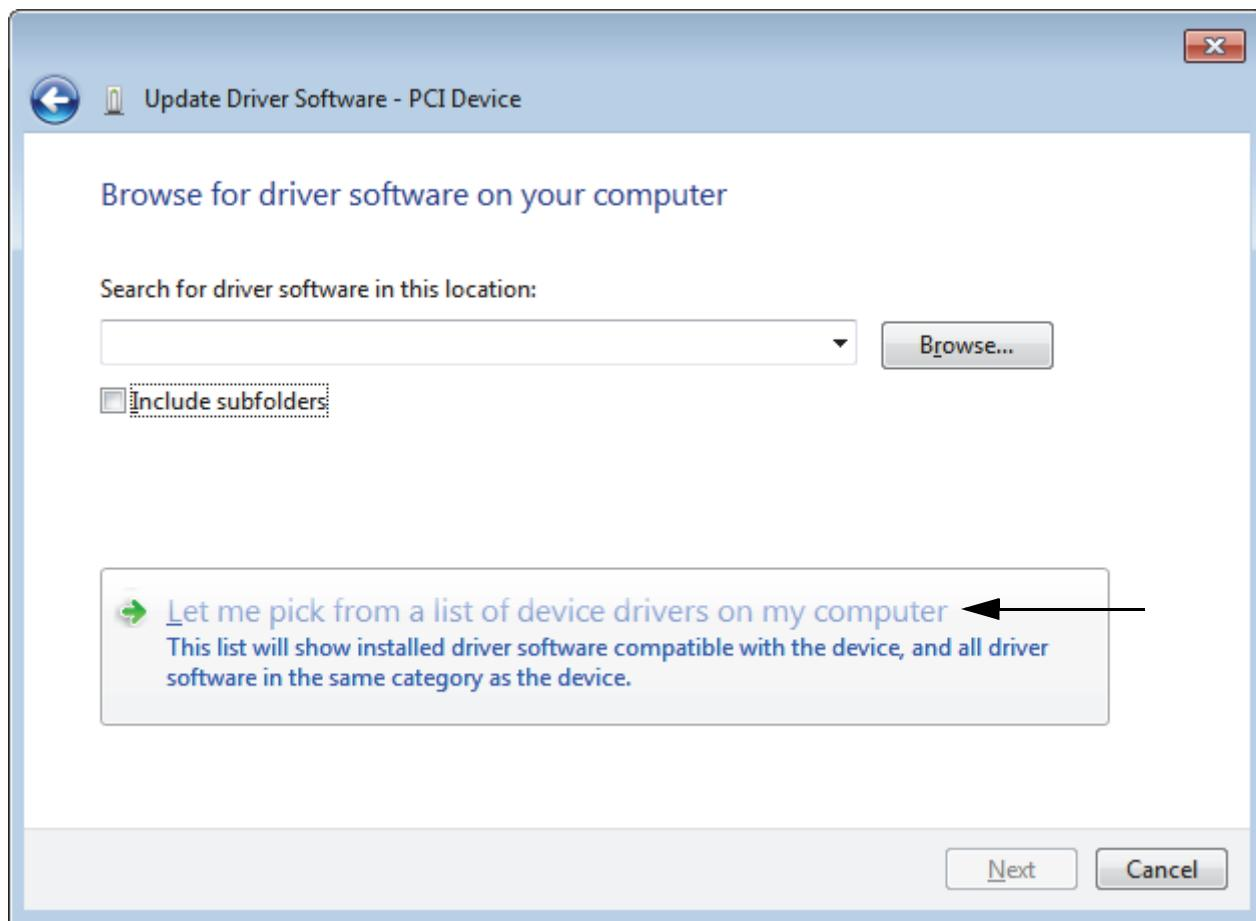

Figure 5-21. Select To Choose From A List of Device Drivers
6. Select **Let me pick from a list of device drivers on my computer** as shown in Figure 5-21.